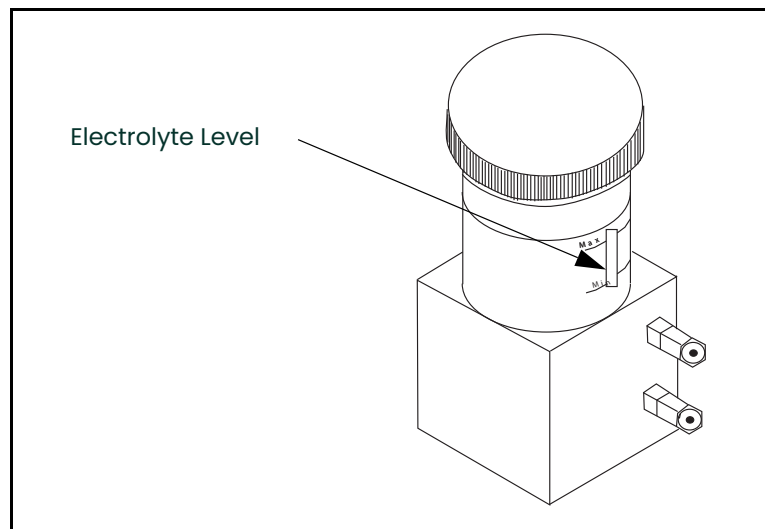

Figure 7: Delta F Oxygen Cell Electrolyte Level
The Delta F Oxygen Cell is available with various types of mounting enclosures. However, the cell itself will always look like the one shown in *Figure 7* below.
3. Using the min/max window on the oxygen cell, check the electrolyte level. The electrolyte should cover about 60% of the window (see *Figure 7 on page 11*). The cell is now ready to be connected to the gas line.